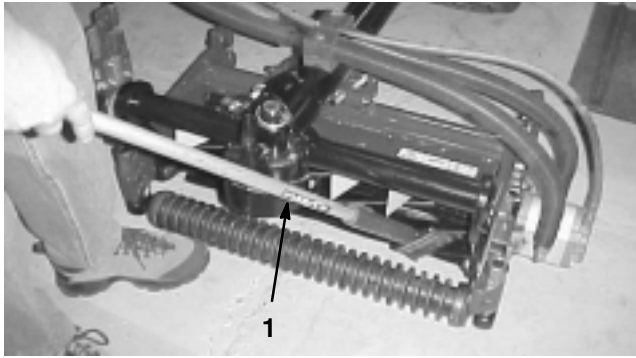

Figure 21
8. Apply lapping compound with a long handle brush (Toro Part No. 29-9100). Never use a short handled brush (Fig. 21).